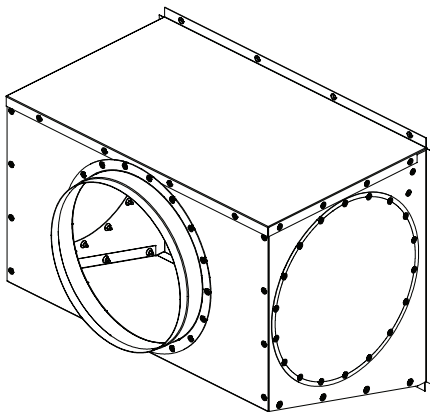

Fig. 10: D-22
1. Install the Air Intake Assembly (sales order option D-22) over the combustion air intake port on the back of the unit. See Fig. 10. Three intake ports are available: left side, right side and rear. Install the air intake collar on the selected port, and use